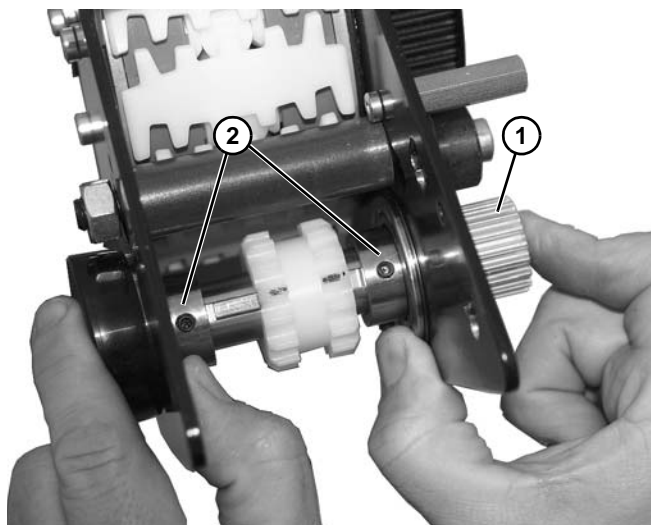

Figure 170
1. Install drive shaft (**Figure 170, item 1**) on two bearings (**Figure 170, item 2**) and press outward as shown.